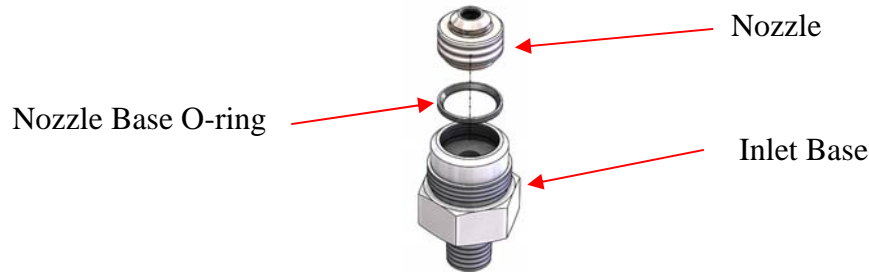

Figure 16: Nozzle/Seat Subassembly of Bottom Entry Valve
17. Remove and discard the nozzle base o-ring. See Figure 16.